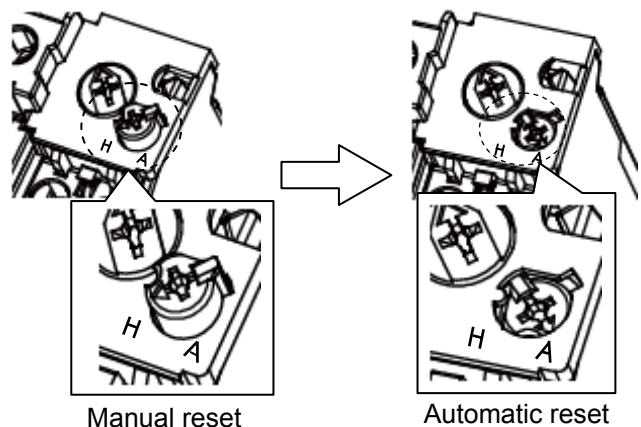

Fig. 5
2. Using a Phillips screwdriver, press in the reset bar and turn it 90° counterclockwise (to position A). (Fig. 5)